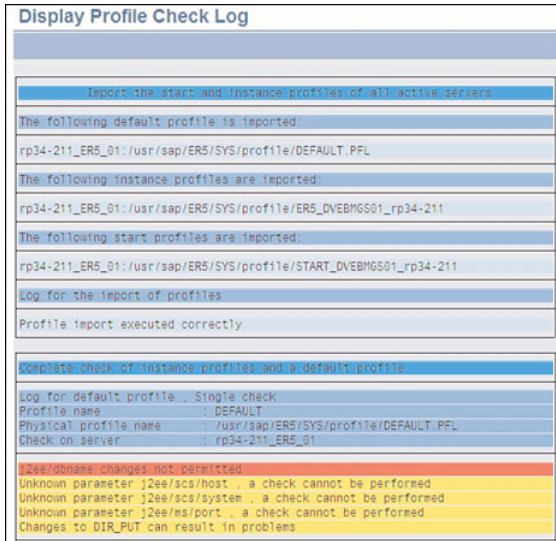

FIGURE 25.8 It is not uncommon to receive messages such as these when you import profiles.
13. Enter the Central Instance Number from the planning worksheet and the SAP Solution Manager Key, as shown in Figure 25.8, and click Next.
3. Import profiles with transaction RZ10 (after the profiles are imported, you can easily change SAP profile parameters). From the SAP menu, go to Utilities, Import Profiles, Of Active Servers. The Profile Check Log will provide information reflecting which profiles have been imported, along with any warnings or errors regarding specific profile parameters (see Figure 25.8).